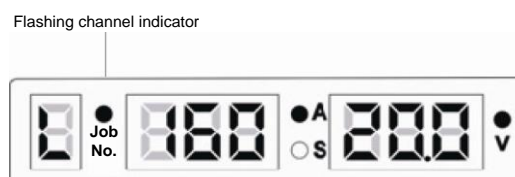

Figure 3-35 UI indicating that welding parameter adjustment ranges are locked
- In the state where parameters are locked, the **Job No.** indicator flashes. See Figure 3-35. The current and voltage adjustment ranges are locked. In the state, you can perform welding and adjust the current and voltage within the specified ranges.